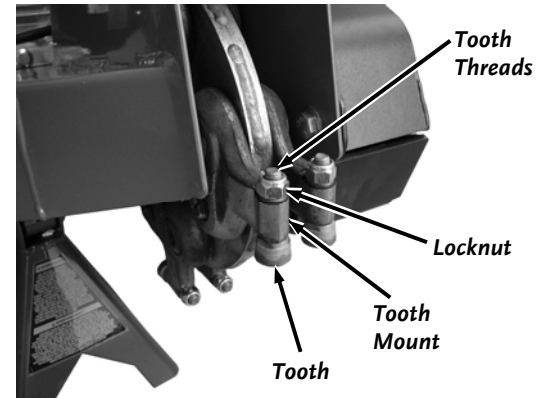

Figure 47
2. Loosen the Locknut on the Tooth until the top of the Locknut is flush with the top of the Tooth threads (**Figure 47**).